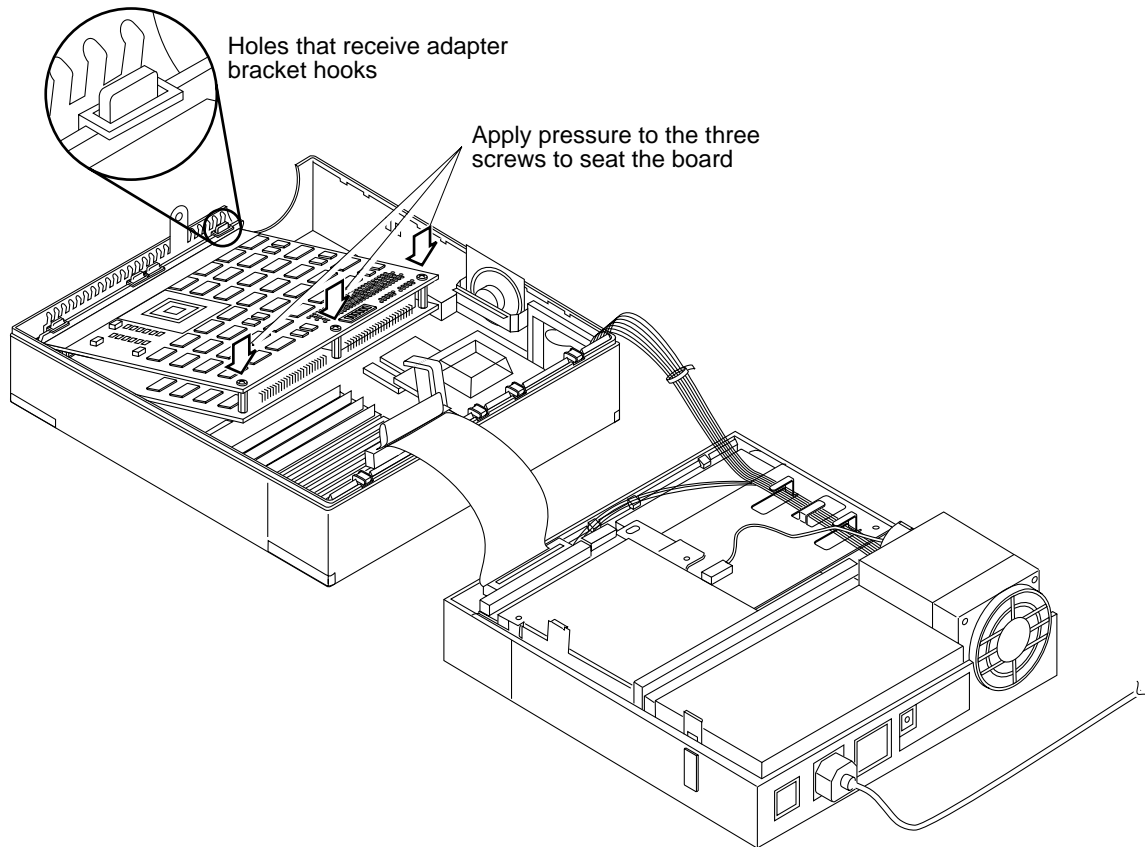

Figure 3-8 Installing the ZX Board in the System Unit of a Two-slot SPARCstation
- 2. Slide the board's interface connector through the rear panel at an angle.** Make sure the adapter bracket tabs are engaged in the rear panel holes (see Figure 3-8).
- 3. Holding the board in place against the back panel, align the board's connectors with the main logic board's corresponding SBus slots.** See Figure 3-8.